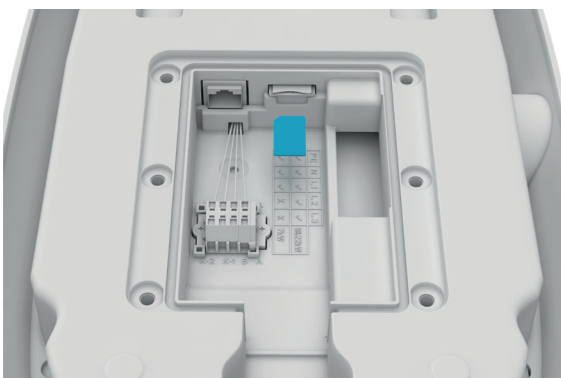

Figure 11 Inserting the SIM card
- 9 After completing the wiring, insert the SIM card, as shown in Figure 11